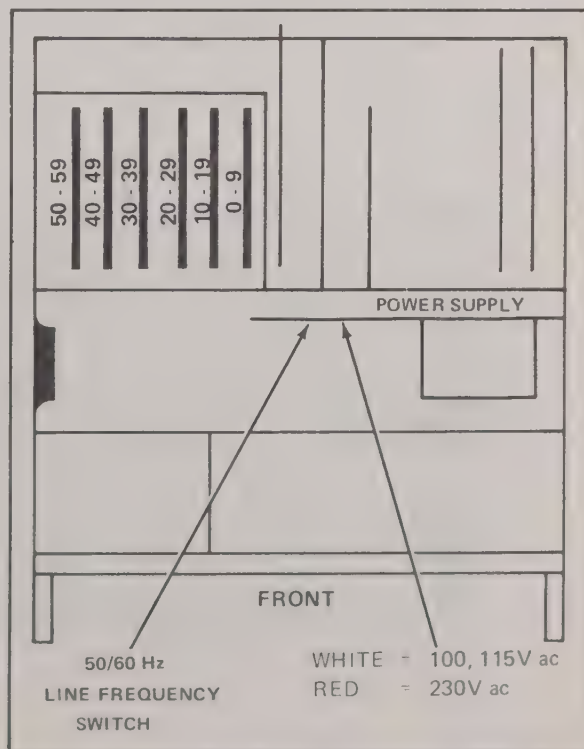

Figure 2-1. Power Supply Voltage and Frequency Switches
- Locate the line-voltage switch shown in Figure 2-1.
- d. Locate the line frequency switch shown in Figure 2-1.